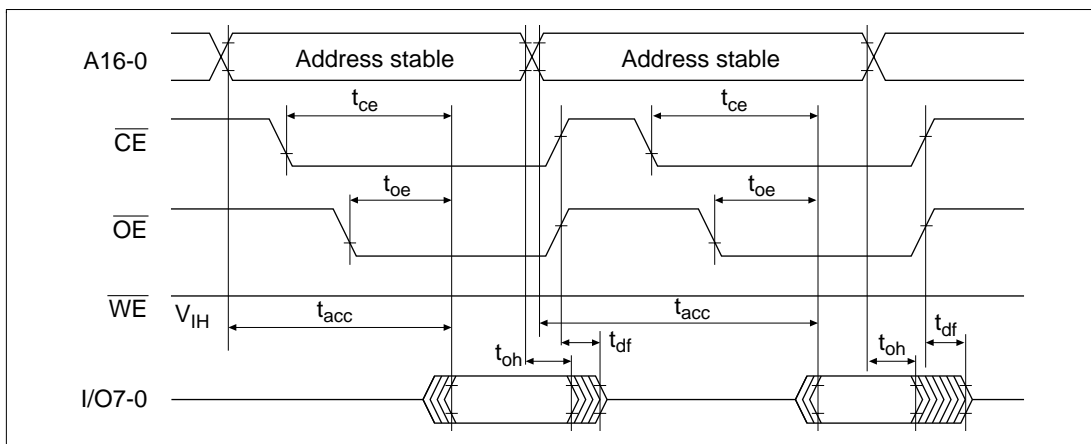

Figure 22.24 \overline{CE} and \overline{OE} Clock System Read Timing Waveforms
4. Memory address transfer is performed in the second cycle (figure 22.24). Do not perform transfer after the second cycle.